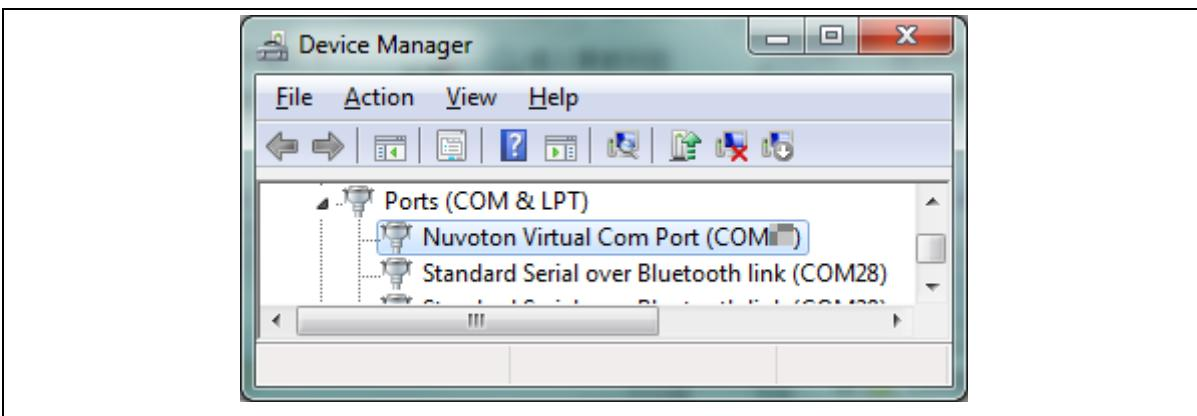

Figure 3.4-3 Device Manger
3. Find the "Nuvoton Virtual COM Port" on the Device Manger as Figure 3.4-3.